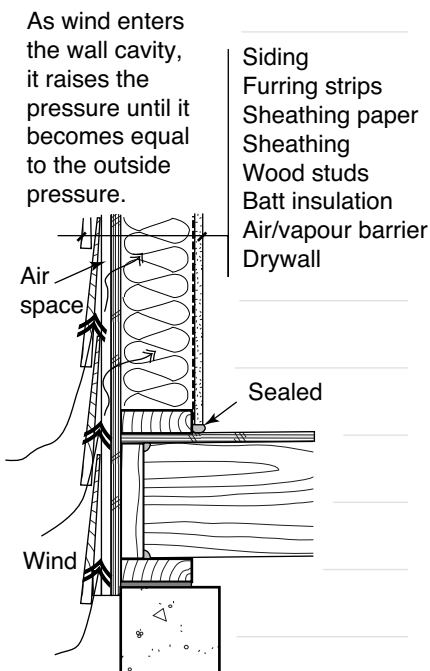

FIGURE 5
- ◆ A rain-screen wall consists of an outer layer of siding or cladding, and an inner wall separated by an air space (see Figure 5). The air cavity must be vented to the outside to allow pressure equalization and must be equipped with drains at the bottom of the cavity to remove any moisture which accumulates in the cavity. To perform effectively, the rain-screen design requires an effective air-barrier system within the building envelope (either at the inner face of the wall or as a component of the exterior sheathing).